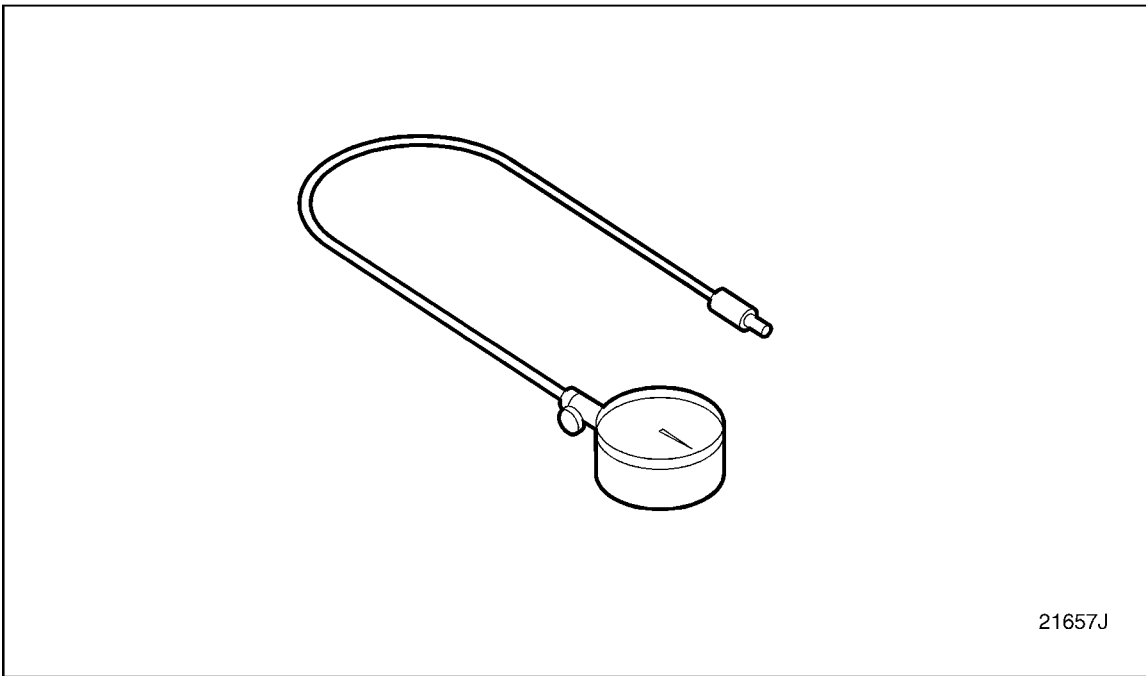

Figure 3-5 Attach Cylinder Compression Gauge J 6692-B
18. Attach cylinder compression gauge (J-6692-B) to the first adaptor. See Figure 3-5.